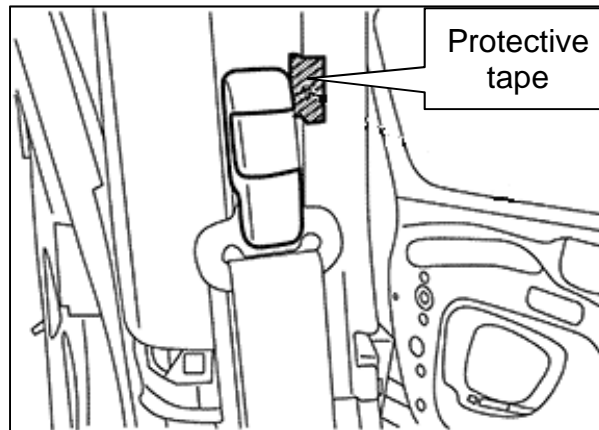

Figure 18
- b. Apply protective tape on the B-pillar trim next to the shoulder belt adjuster cover, as shown in Figure 18.